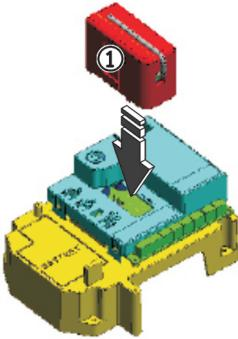

Fig. 3
The control board has an integrated 2-channel decoding system. This system makes it possible to memory-store both total opening (OPEN A) and partial opening OPEN B) of the automated system - this is made possible by an additional receiver module (fig.3 ref. ①) and radio controls on the same frequency.